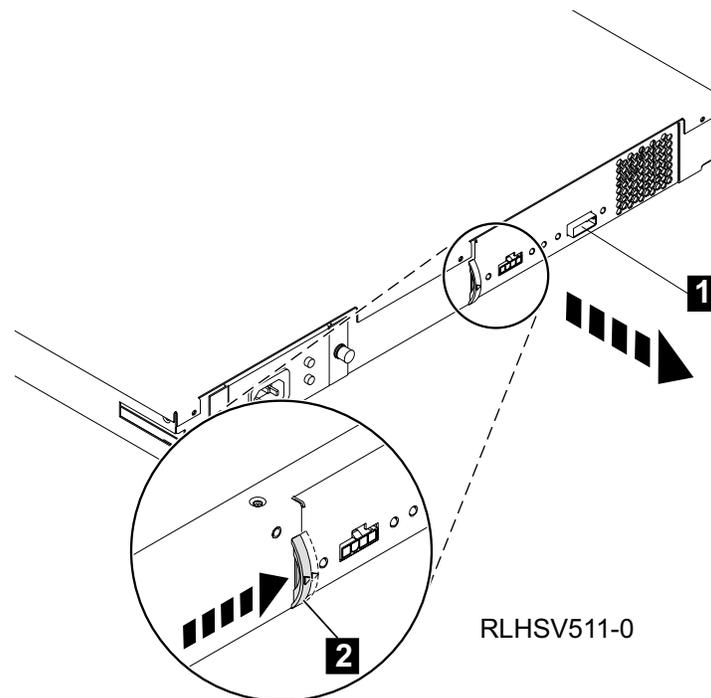

Figure 12. Removing and Replacing the Electronic Tray Assembly
5. Push the latch (see **2** in Figure 12) towards the electronic tray assembly.